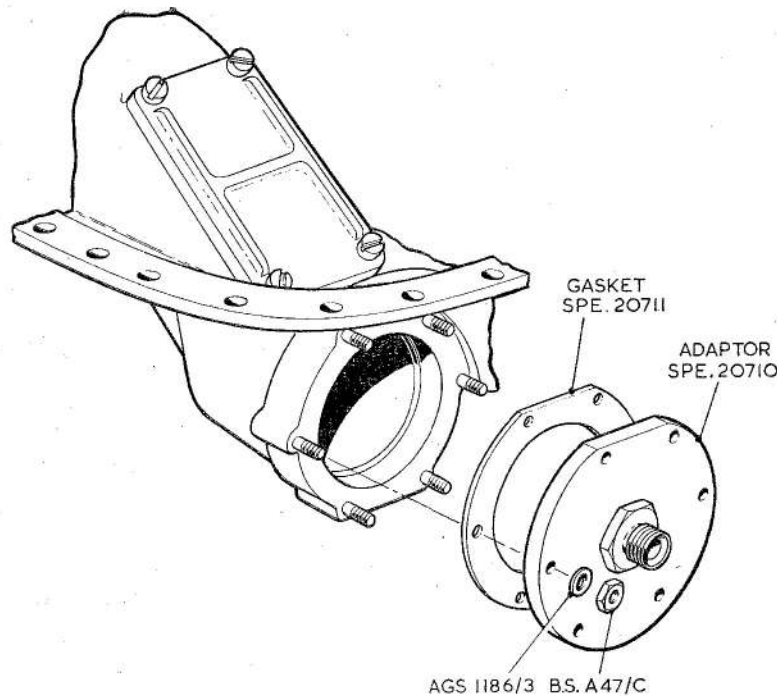

Fig. 12. Flap valve pressure test
26. The flap valve in the mounting plate must now be tested for reverse flow leakage. Fuel at a pressure of 2 lb./in.² and 75 lb./in.² is to be applied through the adaptor SPE. 20710 (fig. 12) fitted to the outlet duct studs of the mounting plate. Fuel leakage past the valve should be collected in a measuring cylinder or other suitable graduated container and must not exceed a rate of 0.4 gal./hr. with fuel applied at 2 lb./in.² or 1.0 gal./hr. with fuel applied at 75 lb./in.² If leakage rates in excess of these figures are obtained, the valve plate should be removed and the seating re-lapped. Re-assemble and recheck.